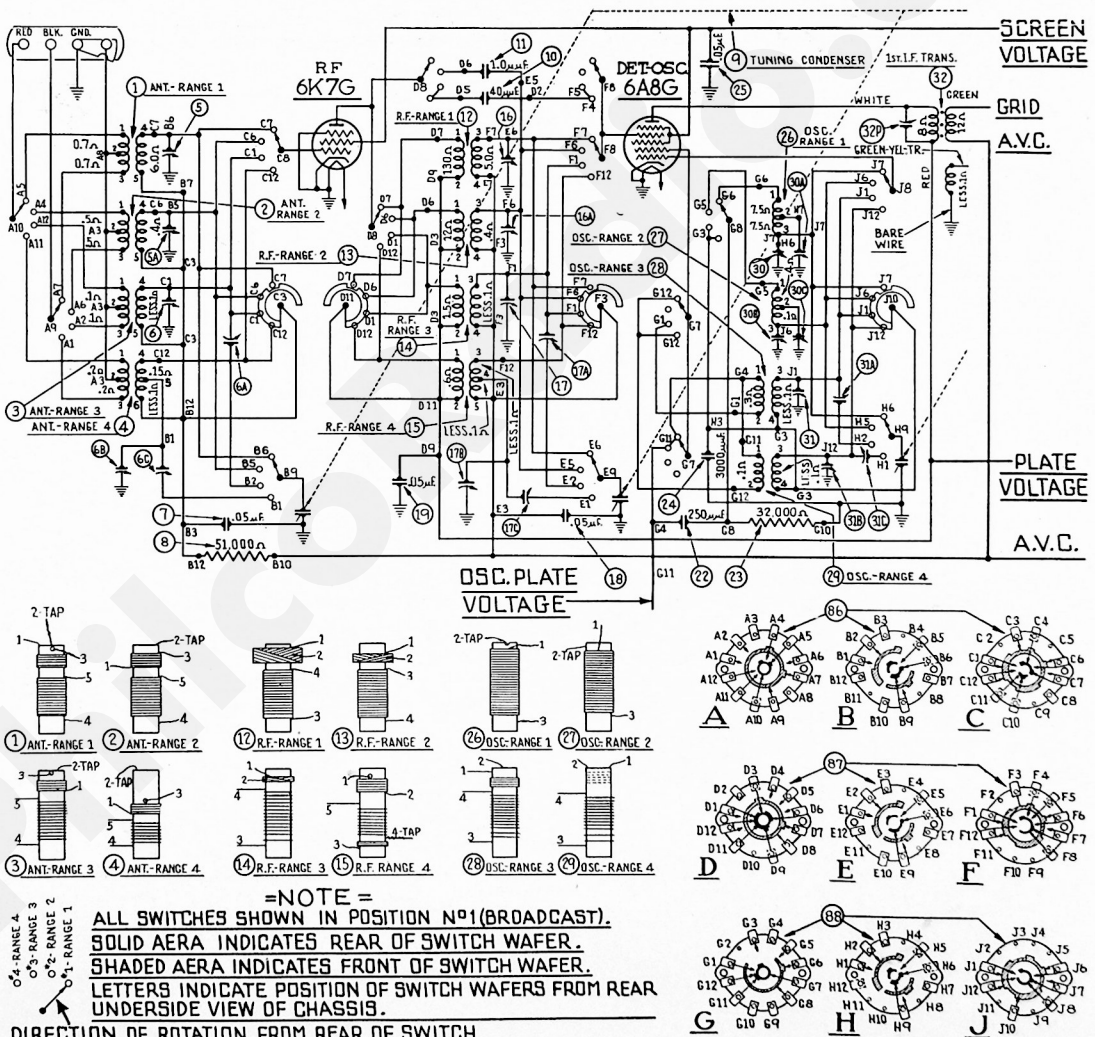
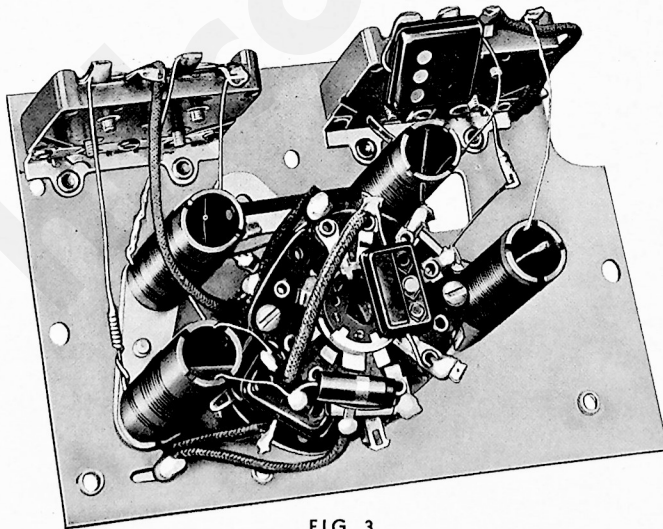

FIG. 1
FIG. 3
Modern service methods require the separation of R.F. circuits into stages. We have reproduced (Fig. 1) the R.F. diagram part of the service manual on Model 37-660, a four-band set. Note that there are four coils drawn under the part of the circuit labeled "Antenna." These are the coils in the Antenna Stage of the receiver. There are also four coils in the R.F. Stage, Nos. (12), (13), (14) and (15) in the diagram. Likewise there are four windings in the Oscillator Stage, Nos. (26), (27), (28) and (29) in the diagram. Fig. 3 is a photograph of this complete Oscillator Stage.
10. Loosen (do not remove) the drive screw which holds the stage shield plate (see Fig. 3) in the unit.